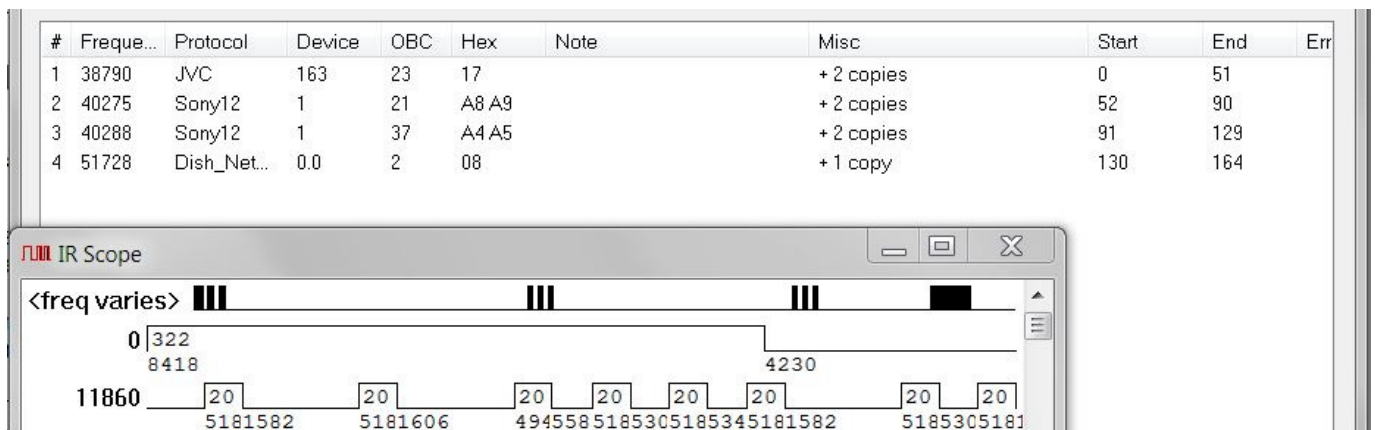

Figure 8. 3.5-Second Capture of Macro Containing Four Commands
10. TAKING TIMING MEASUREMENTS FROM A WAVEFORM. Since waveforms are drawn to exact scale and labeled with elapsed time at the start of each line as well as the duration of all carrier ON and OFF times, you can often just read the time you're interested in, or find it by adding a few values. As an example, suppose I wanted to find the time between the first and second frames of the third command of the macro of Figure 8. First I double-click on item 3 in the decode area so that the Waveform Selection Tool immediately displays command #3 highlighted in red, as shown in Figure 9. The time we are looking for is from **B** (the end of frame #1) to **C** (the